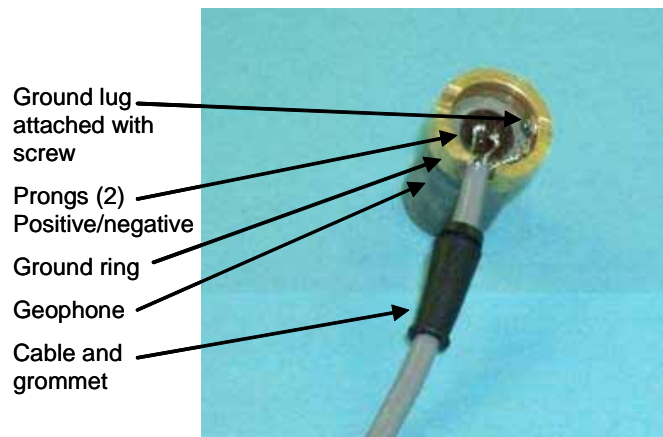

Figure 119. Geophone cable soldered to geophone.
4. Solder the positive and negative wires to the appropriate prongs on the geophone (figure 119). Screw the ground lug into the side to the ground ring.